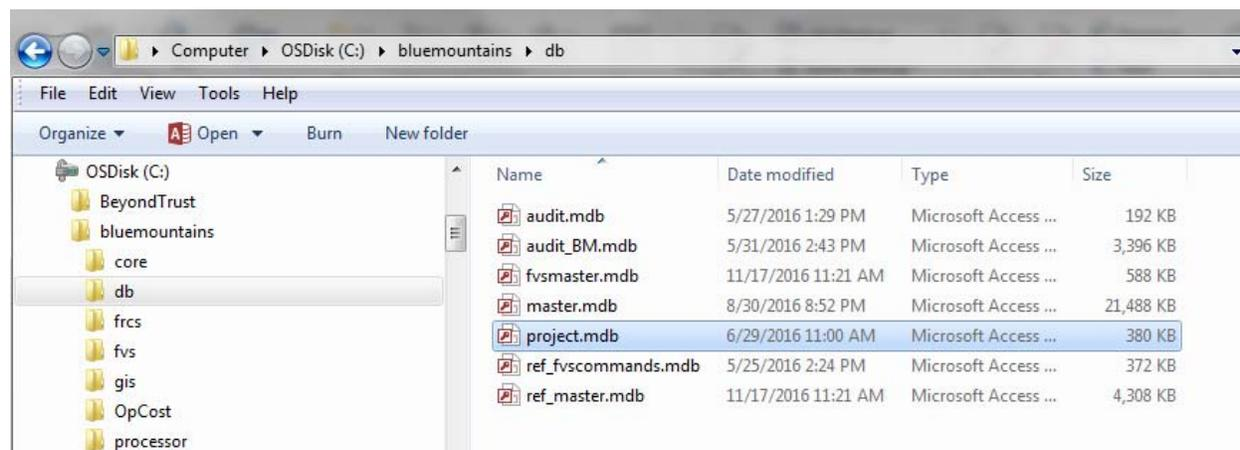

Figure 2.4 – To open a project, navigate to and open the project database in BioSum.
1. To open an existing project, select **<File><Open Project>** on the main menu, or select **<Open>** from the toolbar, and navigate to the project root directory and db subfolder. Choose the file 'project.mdb' (see Figure 2.4). Alternatively, **<File><Recent Projects>** can be used to select from a pick list of projects that have been recently opened or saved.